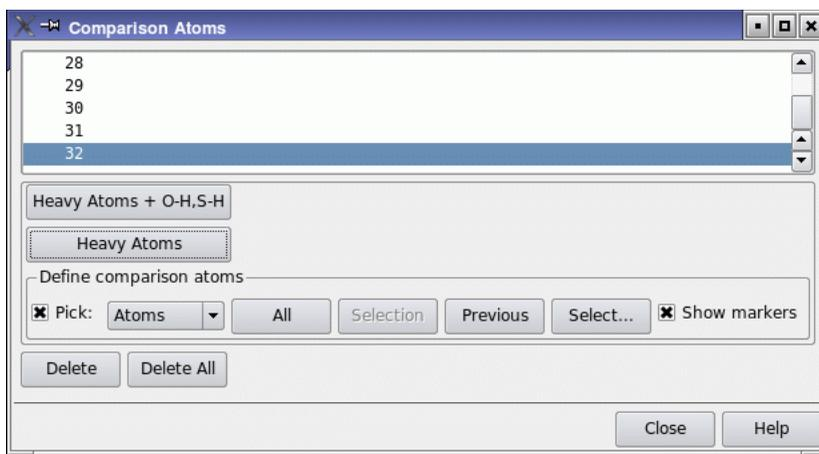

Figure 4.2. The Comparison Atoms panel.
6. From the Search variables option menu, choose Comparison Atoms, then click Edit, to open the Comparison Atoms panel (see Figure 4.2).